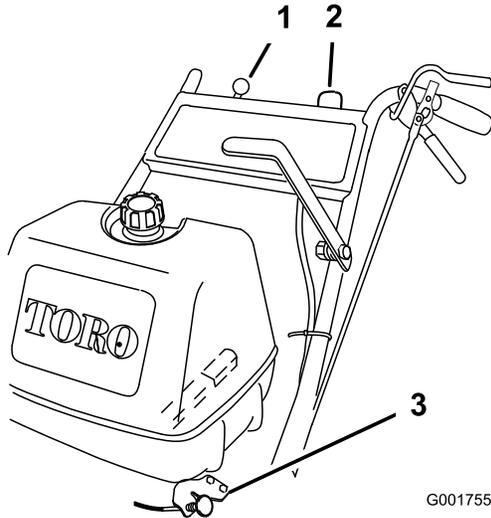

Figure 8
5. Turn the ignition key to the Run position (Figure 8).
8. Pull the choke knob if the engine is cold (Figure 8).
1. Move the throttle lever to the slow position (Figure 8).